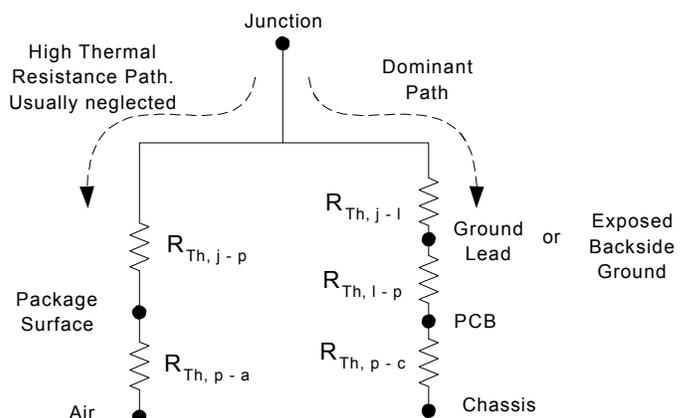

Figure 1: Thermal Resistance Equivalent Circuit
Figure 1 will be used to illustrate the electrical resistor equivalent circuit for a semiconductor device. Starting from the heat source (transistor junction), heat may transport through two paths. In the first path heat transfers from the transistor junction, through the molding compound by conduction, and then to the air surrounding the device by convection. In the second path, which is parallel with the first, heat flows from the junction of the device through the lead, through the PCB, into the chassis by conduction and finally to the air surrounding by convection. The second path is the primary focus of calculating the junction temperature since the majority of heat generated in the device transports through this path. The following example illustrates how to calculate the junction temperature of a device given its thermal resistance.
where i is each thermal resistance from Fig. 1
Step 3: Calculate each DT_i from Fig. 1